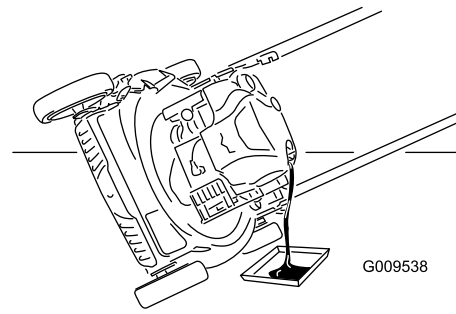

Figure 27
3. Tip the mower onto its side with the air filter up to drain the used oil out through the oil fill tube (Figure 27).
4. **Slowly** pour oil into the oil fill tube until the oil level reaches the **Full** line on the dipstick (Figure 27). Wait 3 minutes after adding oil to check the oil level with the dipstick. **Do not overfill.** (Max. fill: 20 oz. (0.59 l), type: SAE 30 detergent oil with an API service classification of SF, SG, SH, SJ, SL, or higher.)